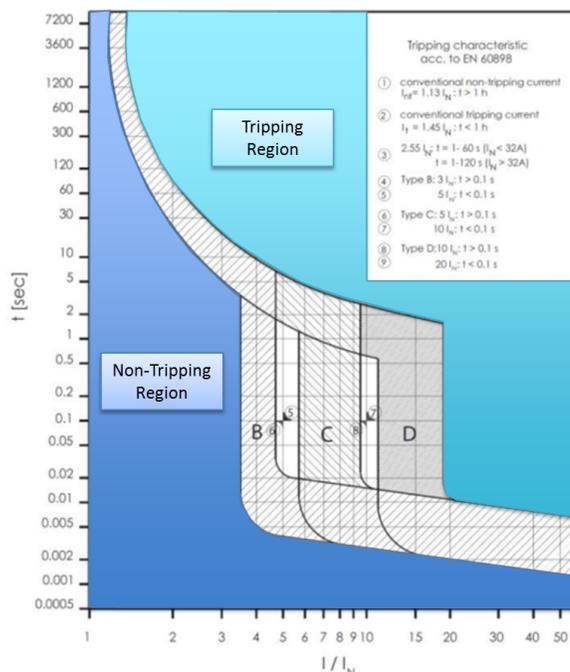

Figure 4. Trip Curve as per IEC 60898-2
For LED lighting application, usually user prefers type B, as per Fig 4 for instantaneous pick up trip point time is less than 0.002S. if the LED driver inrush current lower than 100A ( $\Delta T = 0.002S$ ). Then you can neglect considering the inrush current for the MCB load calculations.
- Correlate the  $\Delta T$  with I/IN from Fig 4
Correlating above value from Fig 4, at  $\Delta T = 0.1 S$  10A, type B MCB will trip between 30 to 50 A load current, hence the example application, will instantaneously trip on turn on.